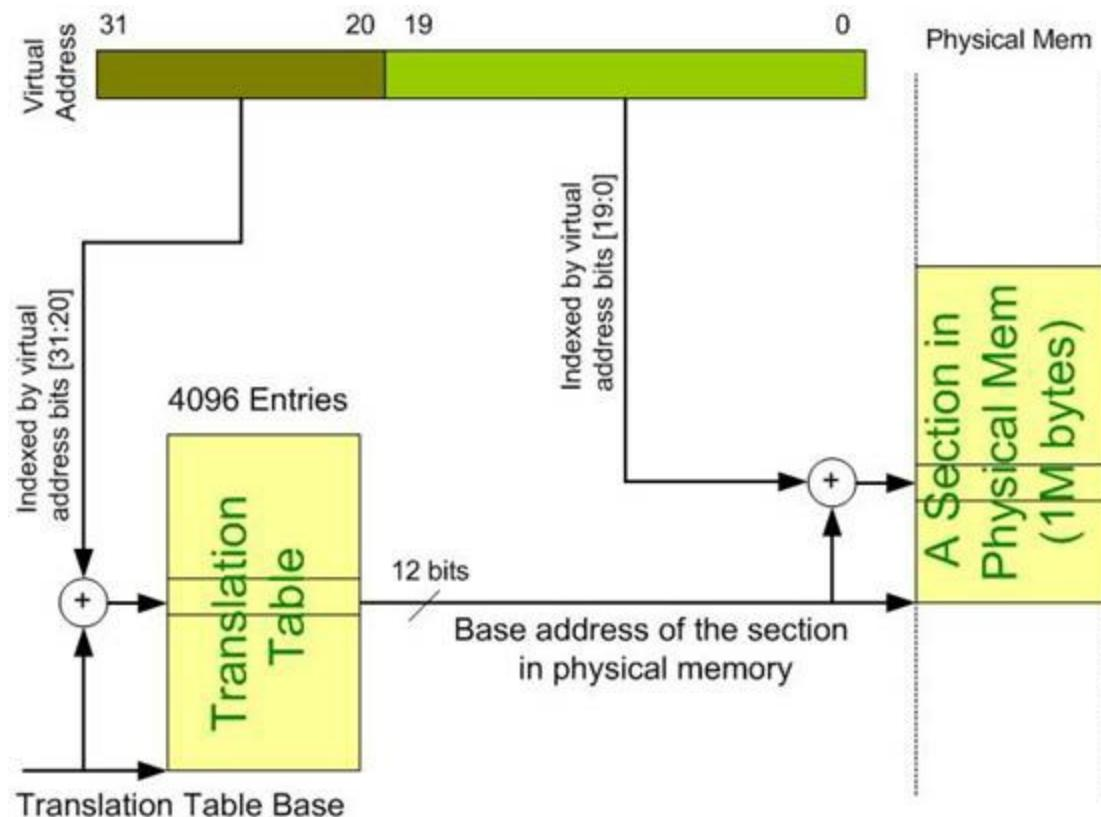

Figure 15-6: One Level Virtual-to-Physical Address Translation for 1M Page in ARM
- b) The lower 20 bits of the virtual address are used for the lower 20 bits of the physical address (A19-A0). See Figure 15-6. In other words, only the lower 20 bits of the virtual address match the lower 20 bits of the physical block location (A19-A0) in RAM or ROM where data is located, and the upper 12 bits of the virtual address must go through only one level of translation tables to get the actual physical address of the beginning memory section where the data is held.
As seen in Figure 15-6, the 12 bits of virtual address pointing to translation table, can have 4,096 ( $2^{12}$ ) possible combinations. Each possible value can access a 1M bytes of physical memory. Therefore, we have  $2^{12} \times 2^{20} = 4$  gigabytes of virtual memory for the ARM. That is why we do not need two level of table walking when we use 1 MB pages. With a TLB of 64 entries, the TLB inside the CPU can have 64 (out of the 4096) 1 MB pages of the most recently used sections, which allows the CPU to have instant access to 64M bytes ( $64 \times 1M = 64M$ ) of code.